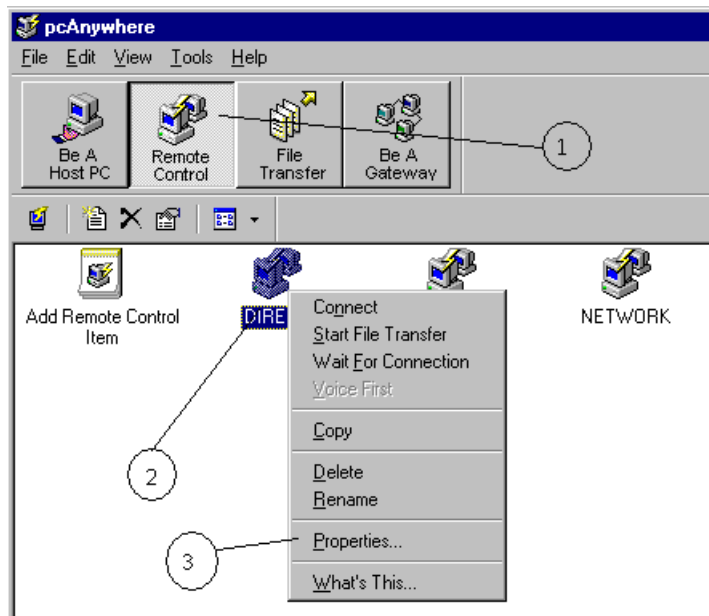

Fig. 24
- Select the Remote Control button (1/Fig. 24).
- Place the mouse pointer over the icon "Direct" (2/Fig. 24) and press right mouse button. Menu (3/Fig. 24) appears.